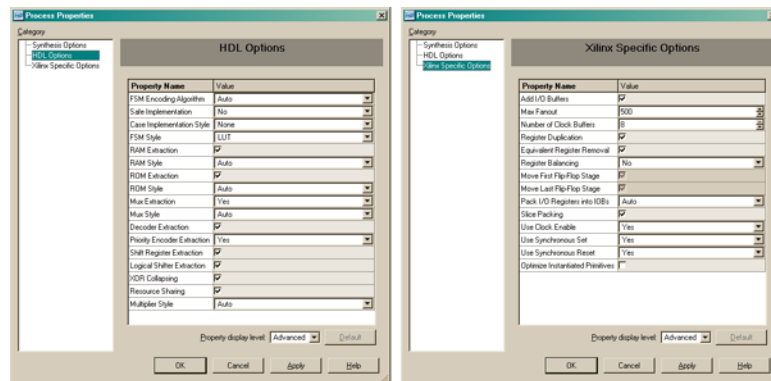

Figure 6-4: Two Synthesis Option Categories
- In the **Xilinx Specific Options** category, ensure that the **Add I/O Buffers** box is checked as shown in Figure 6-4. The I/O buffers will be attached to all of the port names in the top-level entity of the design.